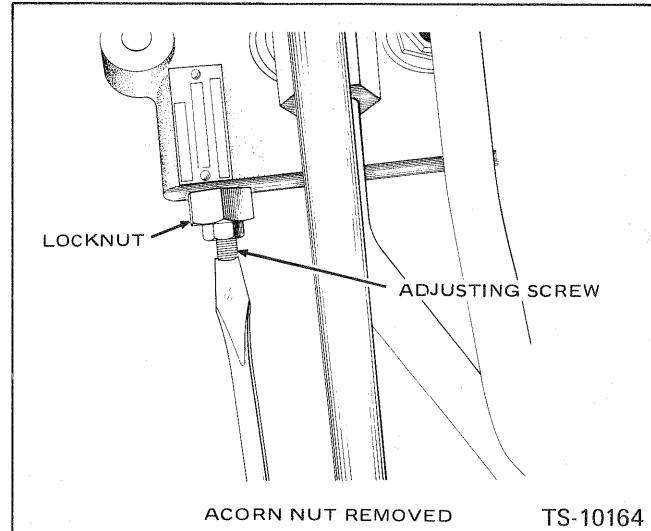

Fig. 10-6 Adjust Pressure — Main Relief Valve
5. Put the machine into a full left hand turn and hold the lever in the full turn position. The gauges should register 1,600 p.s.i. at 2,000 rpm. If not, adjust the main relief by removing the acorn nut, loosening the jam nut and adjusting the set screw located on the top of the main control valve assembly until 1,600 p.s.i. registers on the gauge. Fig. 10-6.